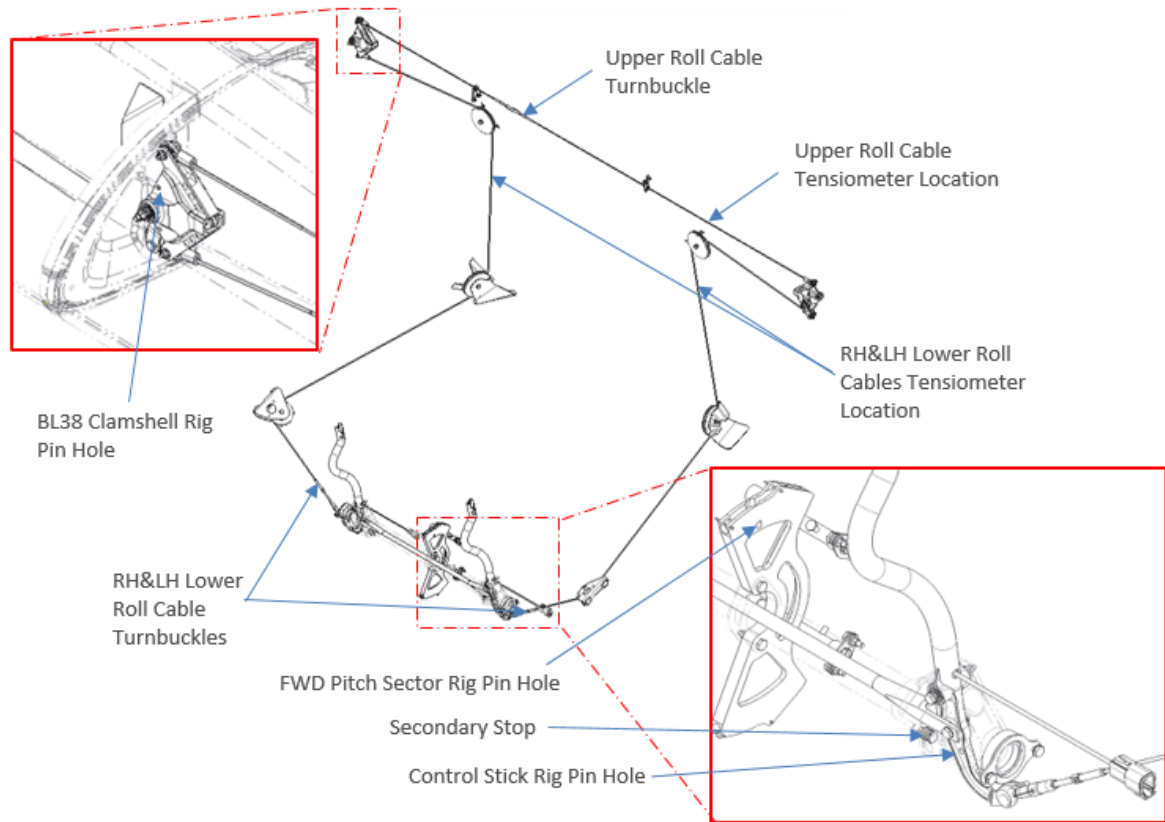

Figure 5: Roll control system overview
2. De-tension the affected lower flight control cable by removing safety wire or turnbuckle clips and loosen the turnbuckle located at the torque tube entrance shown in figure 5 below.
1. Starting from the center wing loosely route new lower roll cable from the roll socket to the torque tube bearing. Use figure 5 for routing path.
5. Install .1875" rig pins at both roll sockets, left side control stick base, and .250" rig pin in the center section pitch sector as shown in figure 5 above.
6. Slowly rotate the lower roll control cable turnbuckle (ensuring that the cable not wound up during the tension process) on the replaced cable until the cable tension is set at 25-30 lb. as measured in the locations shown in figure 5. Measure all three locations and adjust the other cables if they are not 25-30 lb. tension.